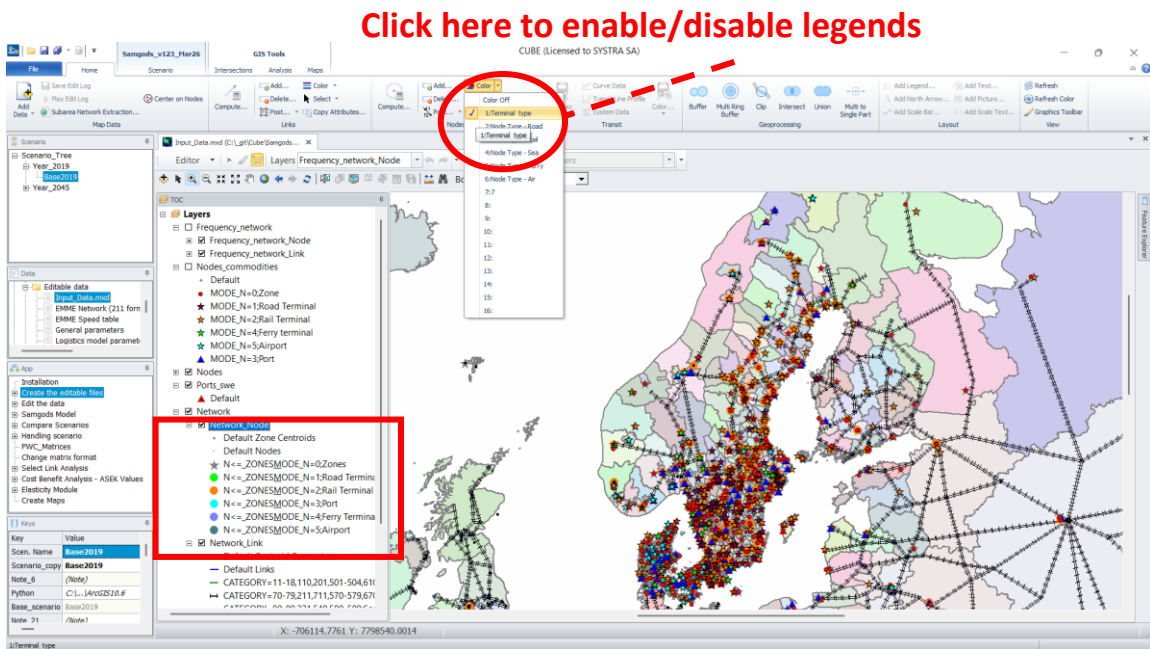
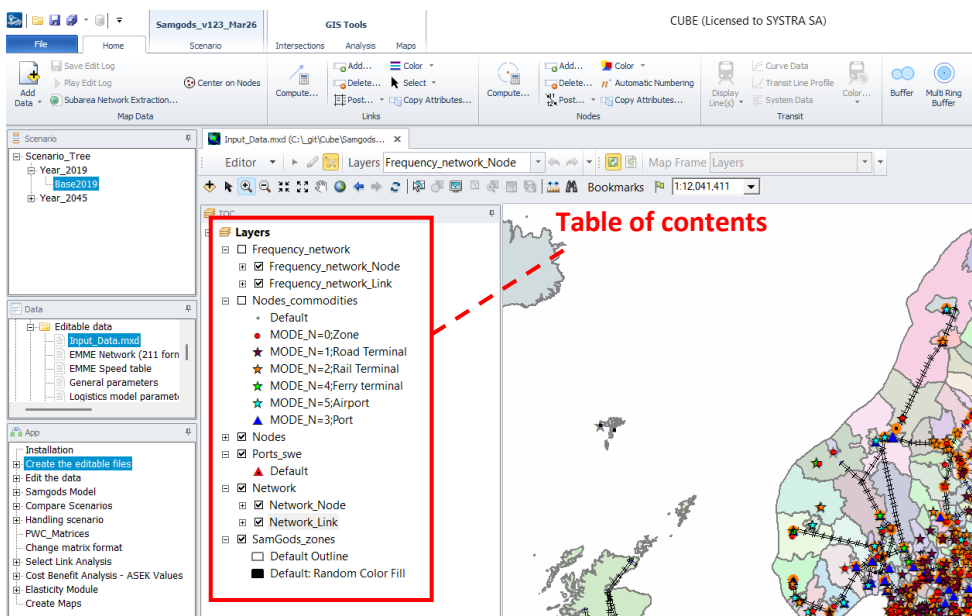

Figure 54 Enable the layer and select the set of legends as in the figure. Example of default legends, for the Network_Node layer
Figure 55 Table of contents (TOC)
- a. Network_Node: Terminal type (shown in Figure 54).
The best way of using these filters is in conjunction with the default legends: First activate the desired filter(s) for the layer(s) the user wants to work with and then enable and/or edit the corresponding set(s) of default legends using the icons shown in Figure 54. The layers ticked in the TOC in Figure 55. These are the ones that are visualised in the GIS window. A layer is selected by clicking on it in the TOC. By selecting “Datasets -> Set Selectable Layers” it is possible to set which layers that allow selecting elements. E.g., if the Samgods_zones layer is selected in the TOC but not set as selectable, the zones are shown in the GIS map but cannot be selected with the Select features tool (see below). The default is that all layers are selectable. When editing the GIS data, the layer containing the data that is edited must be selected in the “Layers” drop down menu in the Editor toolbar (see below).